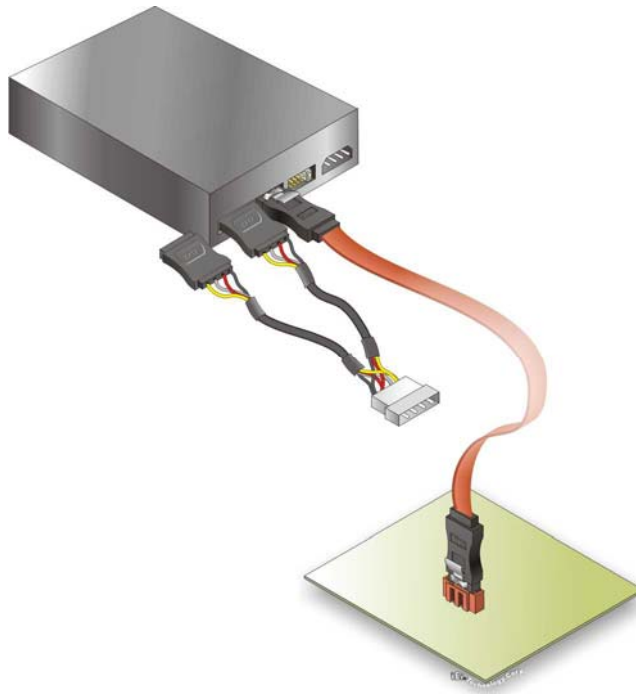

Figure 4-11: SATA Power Drive Connection
Step 3: **Connect the cable to the SATA disk.** Connect the connector on the other end of the cable to the connector at the back of the SATA drive. See **Figure 4-11**.
Step 4: **Connect the SATA power cable.** Connect the SATA power connector to the back of the SATA drive. See **Figure 4-11**.